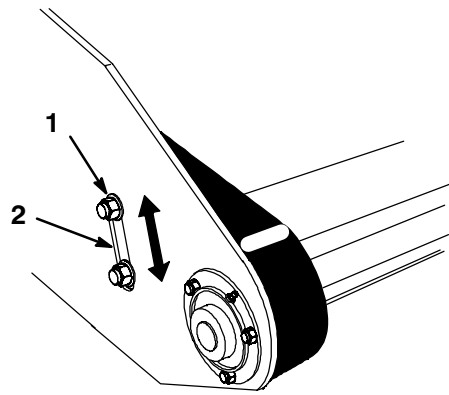

Figure 29
2. To adjust, loosen the bolt that secures idler sprocket to left side housing. (Fig. 29).
3. Slide idler sprocket in adjustment slot until chain is snug, but not tight (Fig. 29).